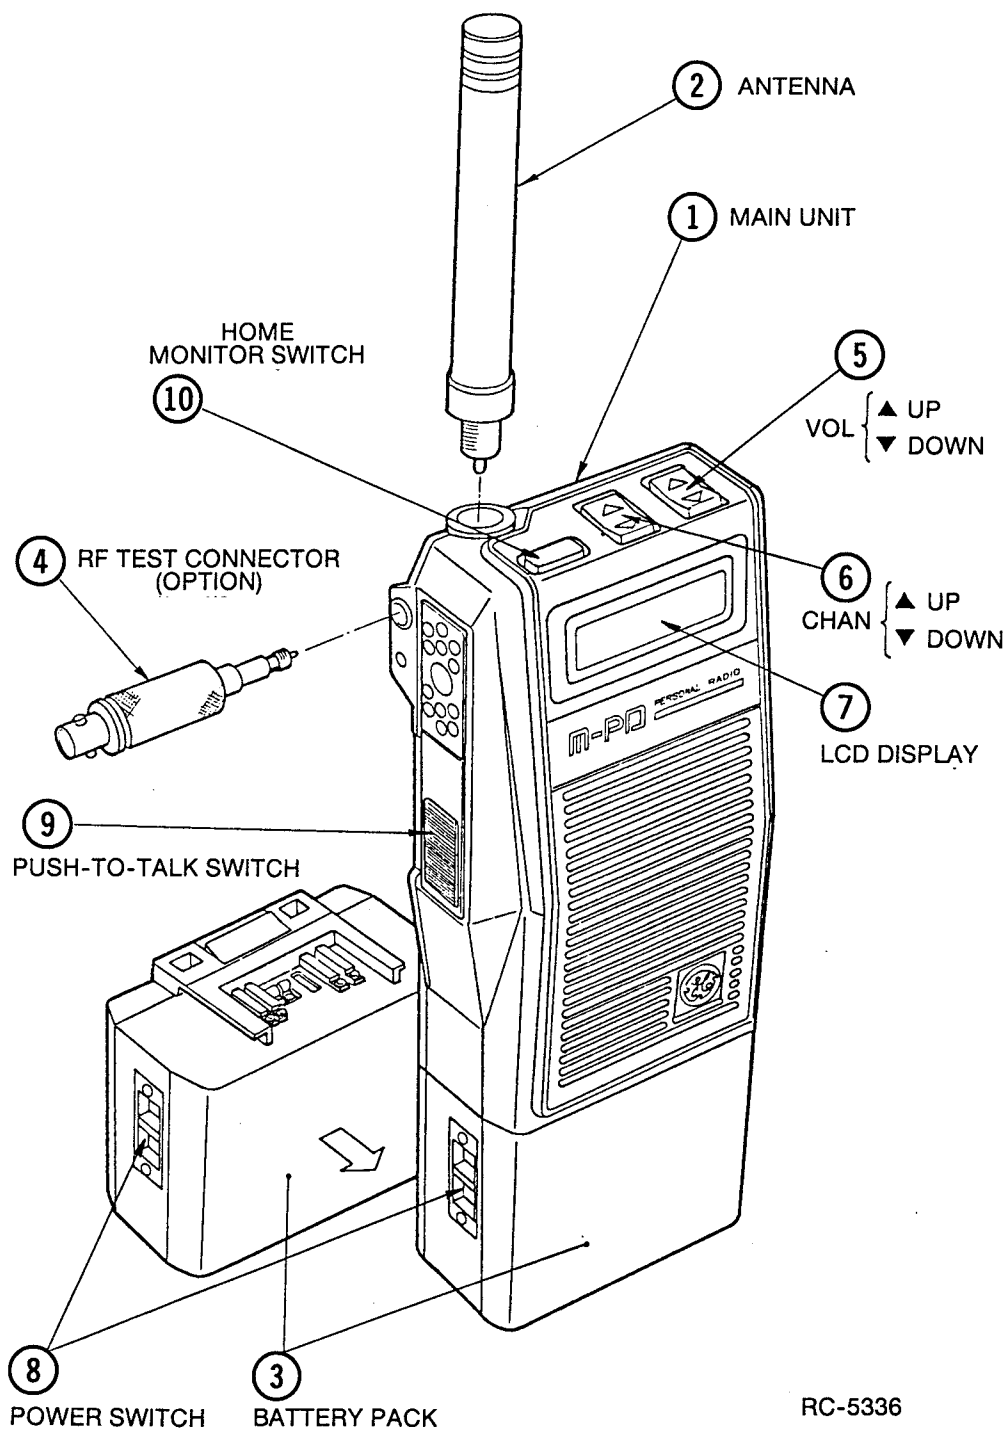

Figure 1 - M-PD Operating Controls and Accessories
Assemble these parts into one unit according to the following procedure and as shown in Figure 1 - M-PD Operating Controls and Accessories.
1. Screw the antenna (2) or the RF test connector (4) in its receptacle. A clockwise turn will insert the antenna or RF test connector, while a counter-clockwise turn will remove them.
2. Slide the battery pack along the bottom of the M-PD main unit from the arrow-marked direction, shown in Figure 1, until the battery pack locks into place.
Operating Procedure (Refer to Figure 1)